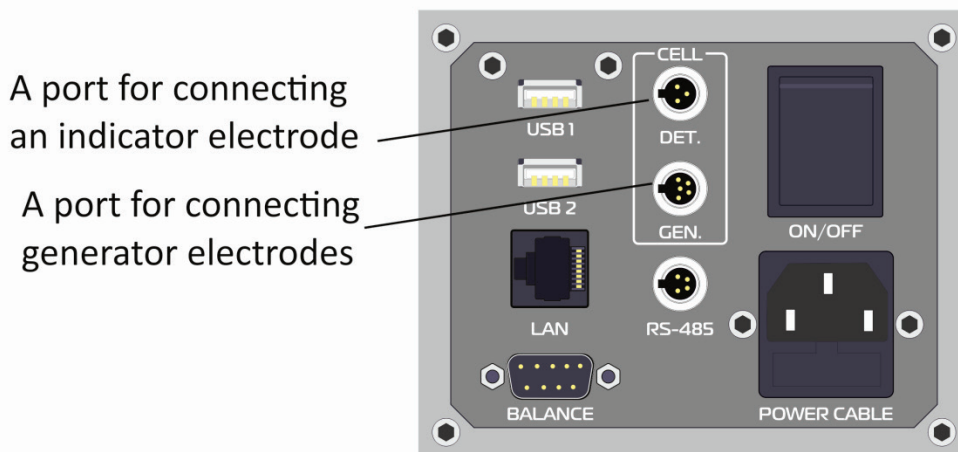

Figure 5
- Connect the plugs of the generator and indicator electrodes to the relevant ports of the instrument (Figure 5).